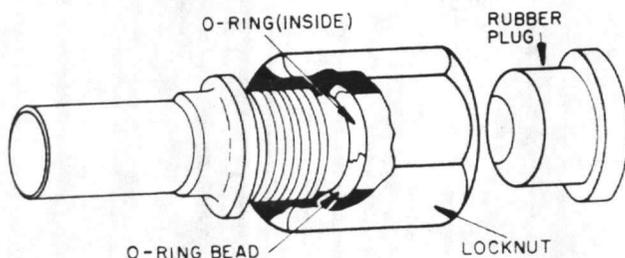

Fig. 7 — Comptible Fitting
1. Loosen locknut on Comptible Fitting one turn. Do not remove. See Fig. 7.
1. Remove locknut, and rubber O-ring from inside of Comptible Fitting. Refer to Fig. 7.